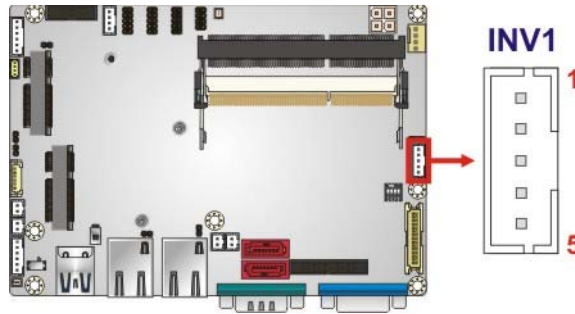

Figure 3-15: LVDS Backlight Control Connector Location
- CN Location:** See **Figure 3-15**